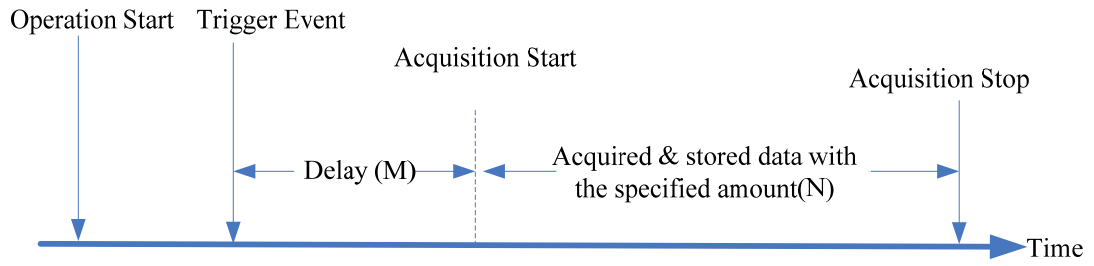

Figure 4.11 Delay Trigger
Use delay trigger acquisition to delay the data collection after the trigger event, as illustrated in Figure 4.11. If the trigger event starts, it will delay (M), then starts to acquire the data with the specified amount (N).